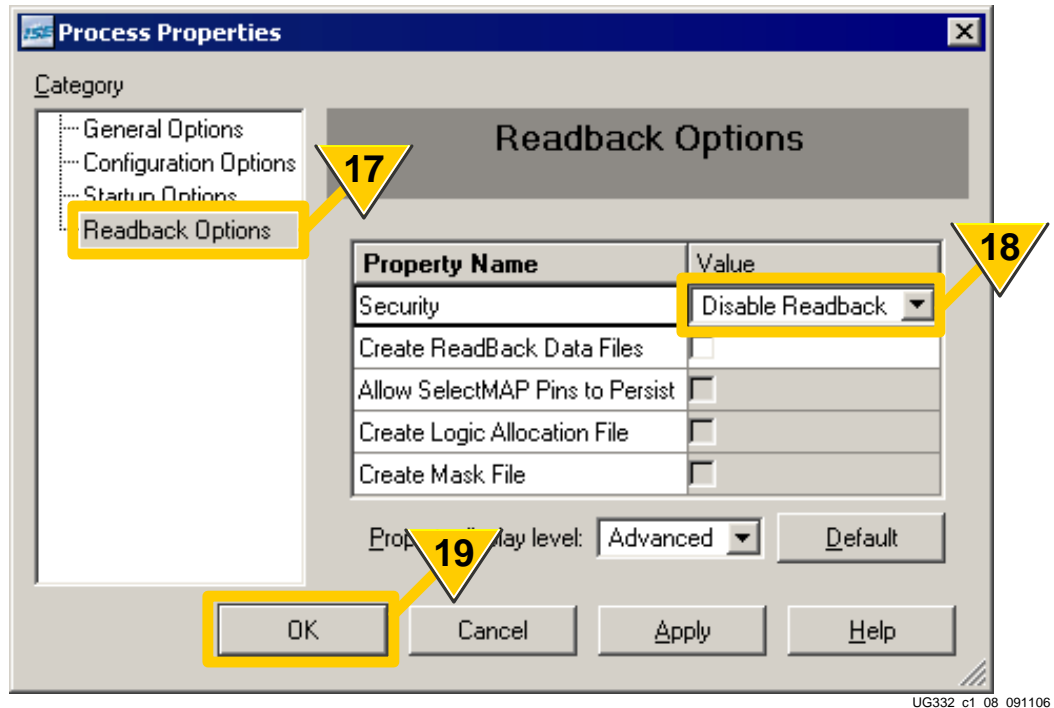

Figure 1-9: Bitstream Generator Readback Options
17. Click **Readback Options**, as shown in Figure 1-9.